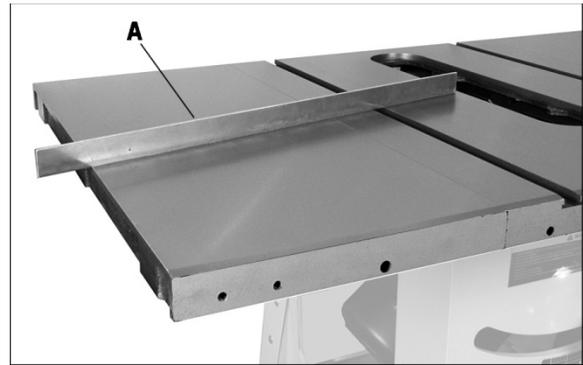

Figure 12
Refer to Figure 12.
2. Lay the straight edge (A, Figure 12) across the saw table and extension, extending it out past the edge of the extension as shown.